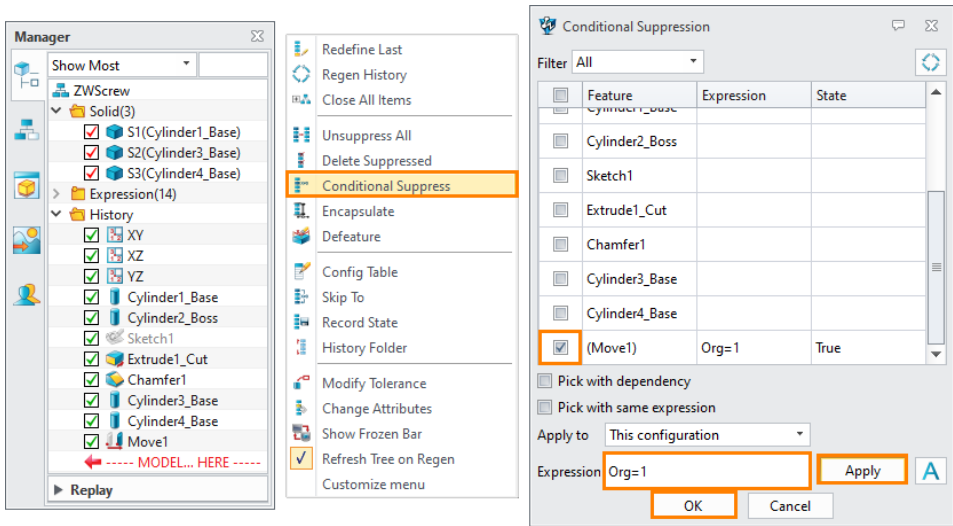

Figure 25 Conditional Suppress
**STEP 07** To switch between 2 types of screw mounting status, we can set the conditional suppress by right-clicking on the blank area of the History Manager, selecting **Conditional Suppress**, ticking the **(Move1)** feature, inputting **Org=1** under the Expression row, and clicking **Apply** and then **OK**, as shown in Figure 25.